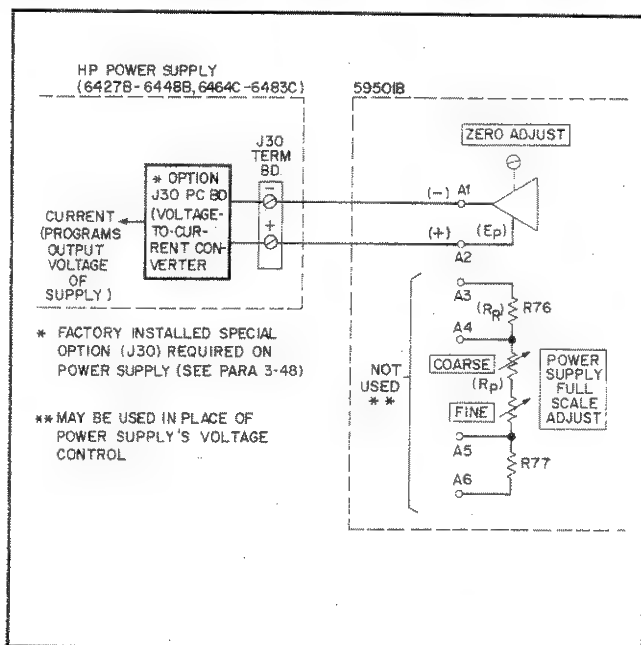

Figure 3-10. CV Programming Connections for HP Power Supply Models 6427B-6448B and 6466C-6483C
**3-48 Special Option J30.** An additional circuit, designated special Option J30, is required when CV programming models 6427B through 6448B and 6466C through 6483C. The Option J30 circuit is a voltage-to-current converter and is required because the 59501B is essentially a constant voltage source. The above supplies utilize current sources in their programming networks. The programmable 0 – 10V output of the 59501B is connected to the Option J30 input terminals (+ and –) on the rear of the supply as shown in Figure 3-10. One characteristic of the J30 converter is that if its input is open circuited, the output of the power supply will rise to about 25% of its rating. With the 59501B connected, the open circuit condition is prevented because a protection circuit in the 59501B presents a low impedance to the J30 input when ac power is removed from the 59501B (see paragraph 4-13).
for all programming voltage received from the 59501B. As indicated on Figure 3-10, the user may disable the front panel VOLTAGE controls and connect the 59501B's POWER SUPPLY FULL SCALE ADJUST in their place. Refer to the applicable power supply's Operating and Service Manual for additional connection information.